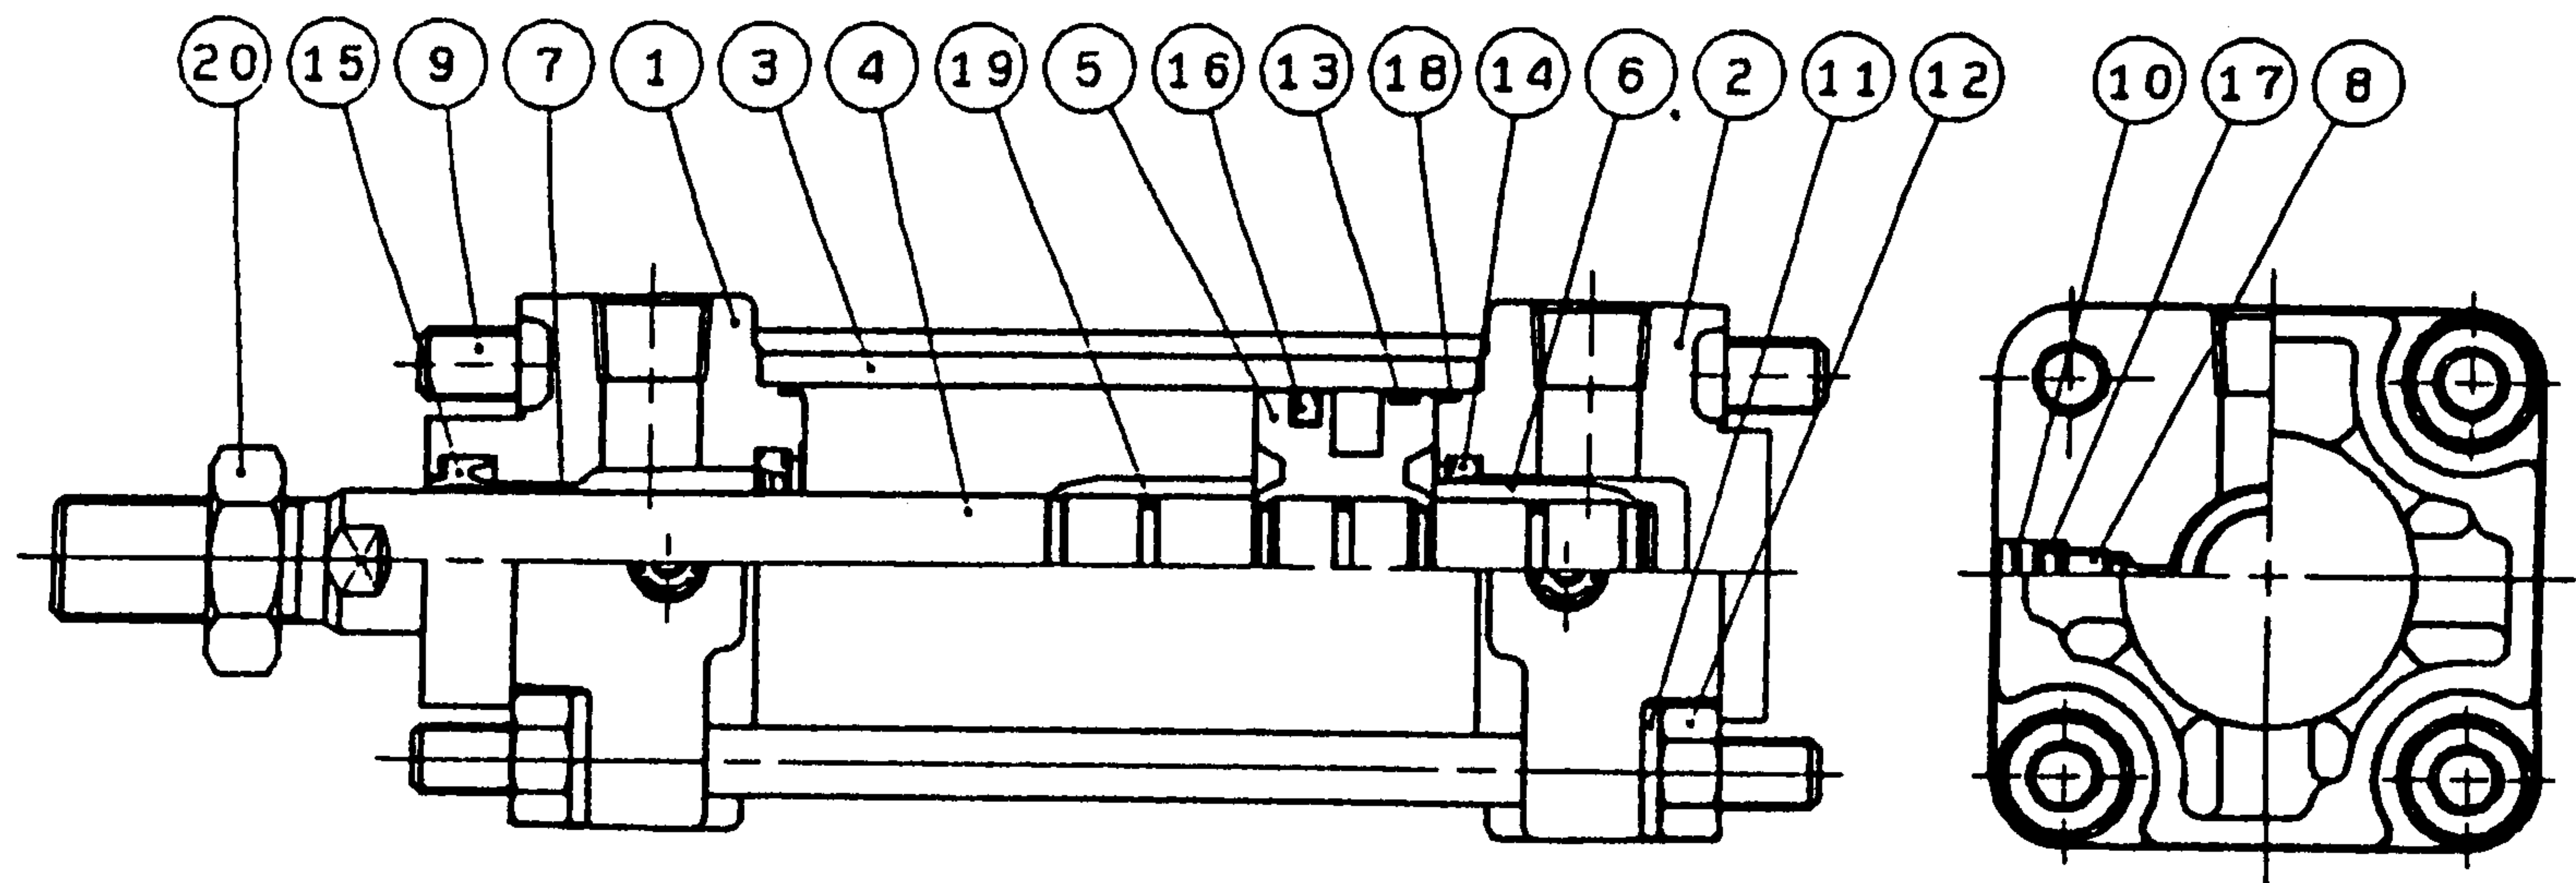

Figure 4
- 10-2. When the cylinder malfunctions due to air leakage and gouges, replace defective parts referring to Figure 4 and Table 4.